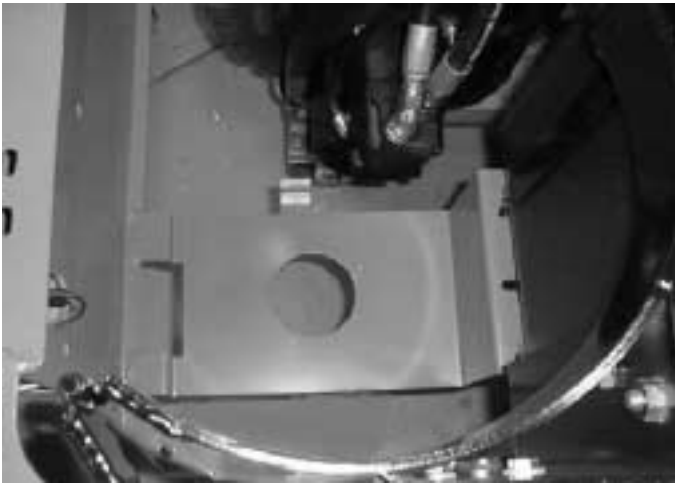

FIG. 1 - Remove LPG tank
(Refer to FIG. 1 thru 5)
6. Unlatch the tank hold-down clamp, and remove the LPG fuel tank from the machine and store the tank in a designated, safe area. (Refer to FIG. 1)